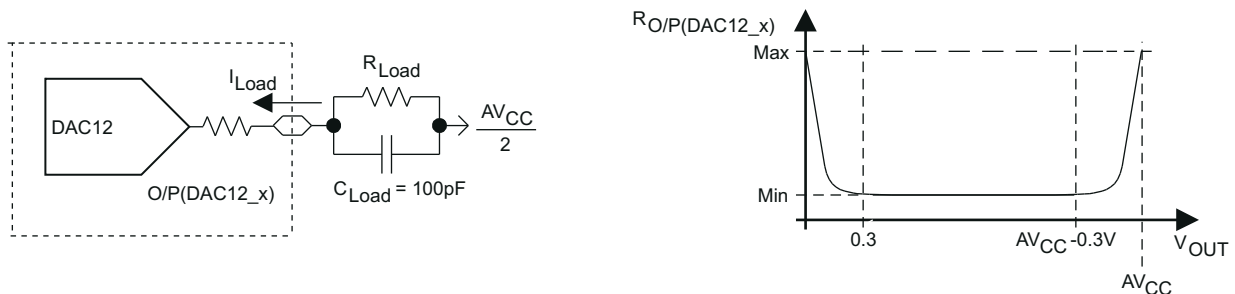

Figure 8-24. DAC12\_x Output Resistance Tests
| V OOutput voltage range (1) (see Figure 8-24) | No Load, V eREF+ = AV CC ,DAC12_xDAT = 0h, DAC12IR = 1,DAC12AMPx = 7                     | 2.2 V,3 V   | 0   |     | 0.005            | V    |   |
| R O/P(DAC12)   | Output resistance (see Figure 8-24)  | 2.2 V,3 V   | R Load = 3 kΩ, V O/P(DAC12) < 0.3 V,DAC12AMPx = 7, DAC12_xDAT = 0h                          |     | 150              | 250  | Ω |